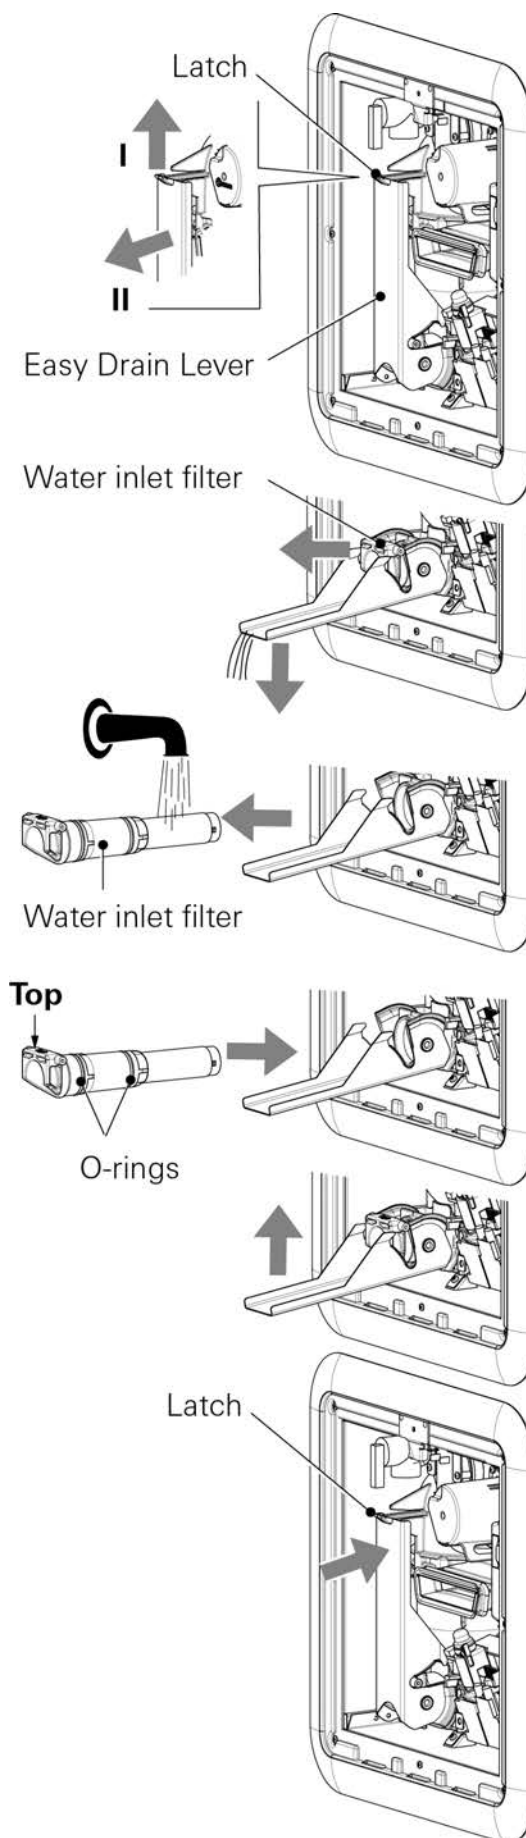

Fig. 9
7. Remove the water inlet filter as shown in Fig. 9 and clean it with clean water.
9. Install the water inlet filter as shown in Fig. 9. Observe the correct installation position and close the Easy Drain Lever until it is locked by the latch. You can hear a "clicking" sound as the Easy Drain Lever engages.